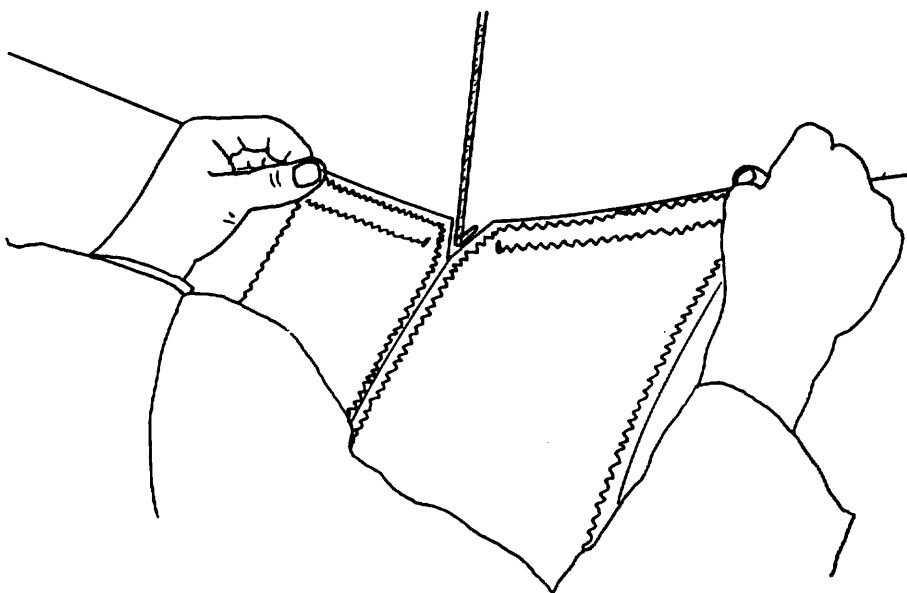
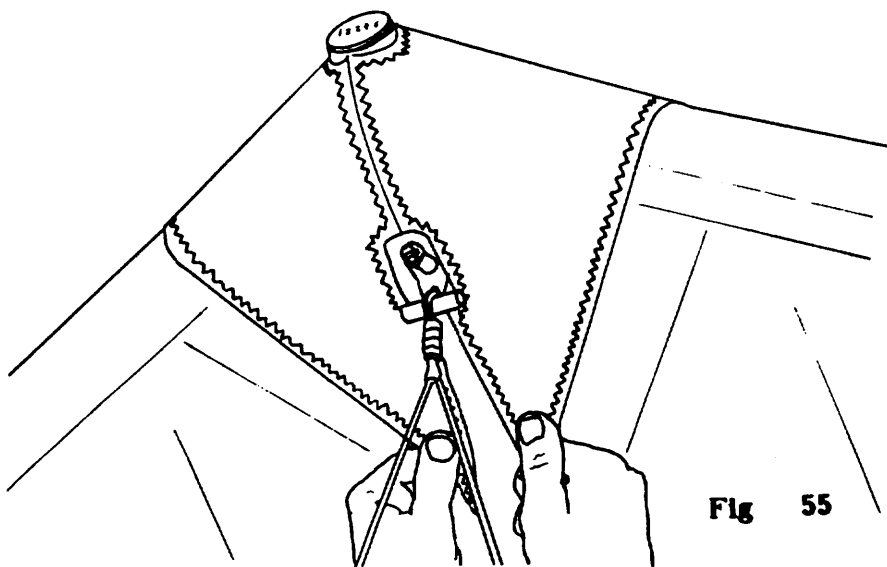

Fig 54
Fig 55
22) Fit the nose cone over the front of the keel (Fig 53) and attach the velcro at the top rear of the nose cone (Fig 54) taking care to line up the nose cone properly. Rest the glider back on its tail and pull the bottom corners of the nose cone back until the nose cone is tight around the nose (Fig 55) and secure the velcro on the bottom of the nose cone.